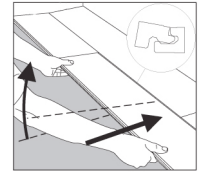

Figure 2
2. Position the first board in place by angling it up slightly, pushing forward and interlocking the side tongue. (Figure 2) The long side of the plank or tile **MUST BE SNUG** against the adjoining plank or tile with **NO GAPPING**. There will be a slight click if the long side is fully engaged when lowered into place.